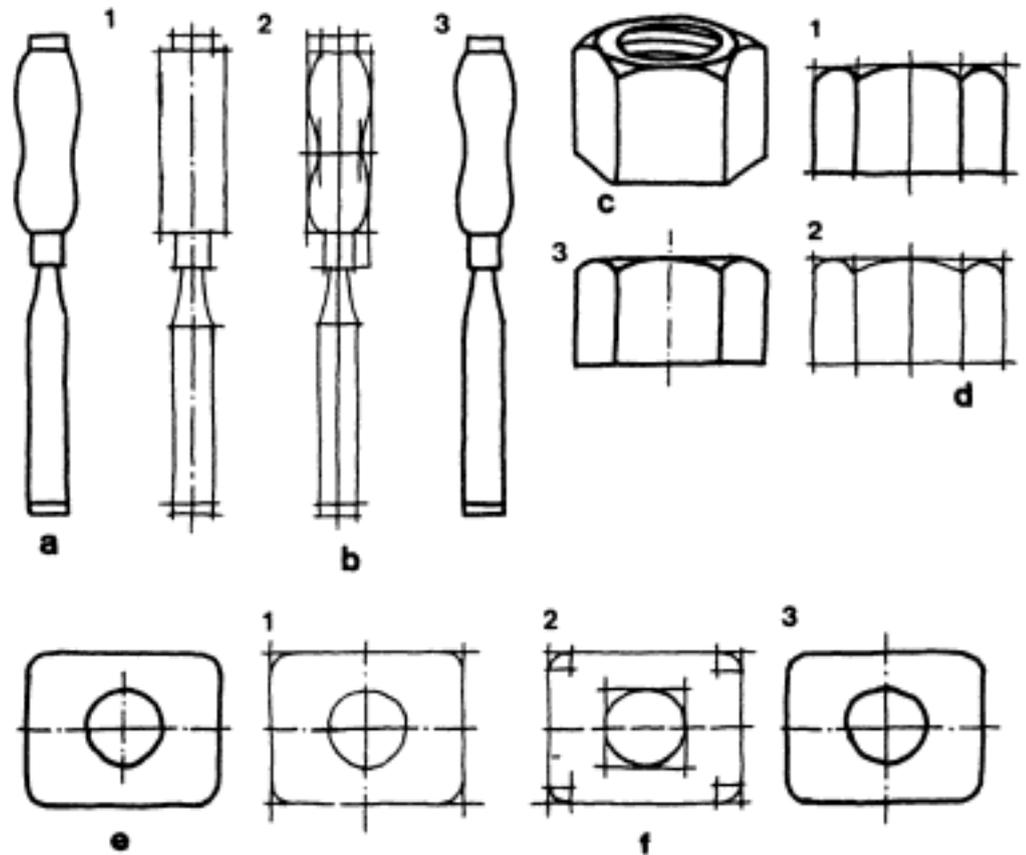

Fig 4.33a-f
- 1 Sketch the chisel shown in fig 4.33a using the following steps, as illustrated in fig 4.33b.